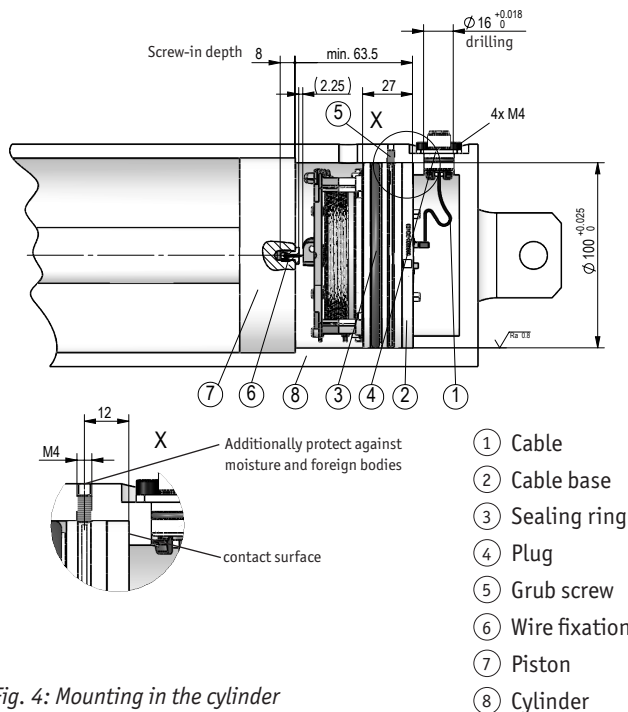

Fig. 4: Mounting in the cylinder
### Mounting (Fig. 4):
3. Pull the plug insert ④ out through the plug outlet on the cylinder base. Join the plug insert with the flange enclosures incl. greased O-ring and screw it 4x at the intended position.
4. The axial fixing can be done with a securing bolt screw ⑤ as shown in Fig. 4. Tighten the threaded pin slightly (approx. 0.5Nm) and then turn back again approx. 0.5 turns. The threaded pin must be sealed depending on the ambient conditions.
For detailed information on installation refer to chapter 4.1 (Fig. 4)